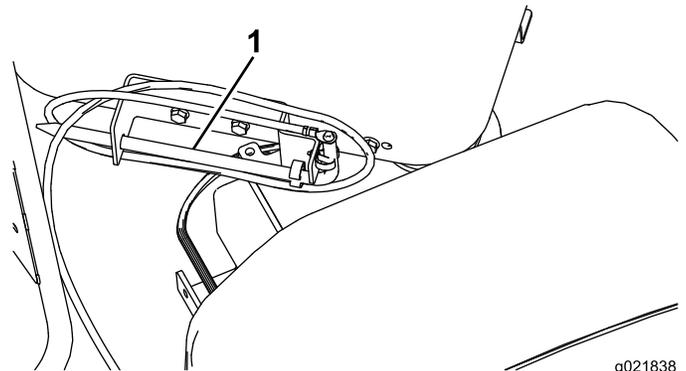

Figure 40
1. Remove the grounding stake from the holder on the side of the operator platform (Figure 40).
2. Move the drive carriage fully down the drill frame and spray the spindle threads with thread joint compound, then return the drive carriage to the upper end of the frame (Figure 40).